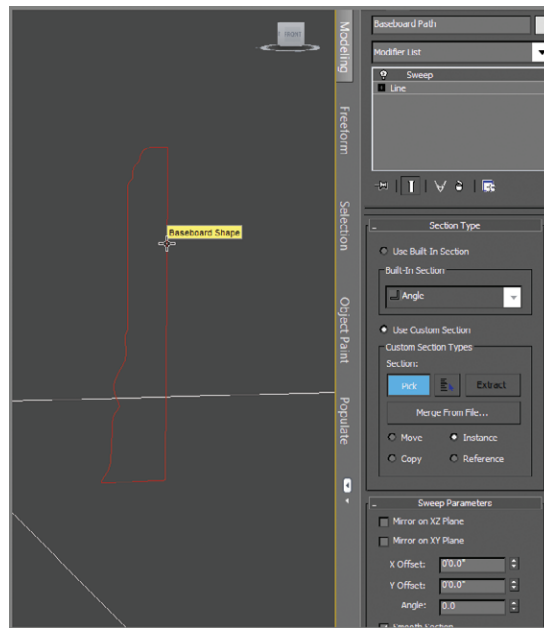

FIGURE 3.23 Picking the baseboard in the Sweep modifier
22. In the Sweep modifier, pick the baseboard shape to create the baseboard, as shown in Figure 3.23.